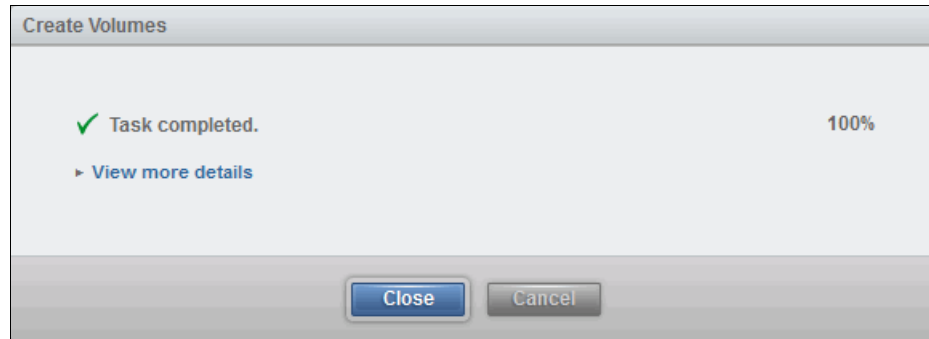

Figure 5-14 Completion of the Create Volumes wizard
8. If you clicked **Create**, the wizard completes, as shown in Figure 5-14.